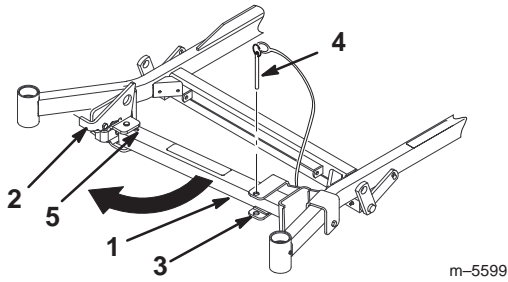

Figure 25
- Remove bracket pin (Fig. 25).
- Raise latch. Swing stand foot out front and slide stand toward machine, into the bottom of slot (Fig. 25 and 26).
- Return stand to its rest position (Fig. 25).